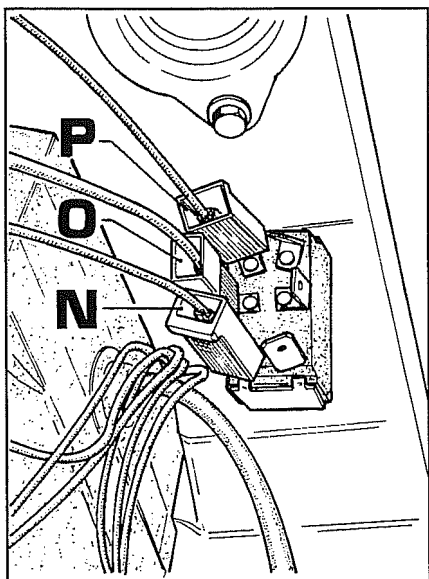

Fig. 49
6. Before disconnecting wires **N-O-P** Fig. 49 to the power pack from the raise/lower switch, check their match up which should be as follows (see Fig.49):